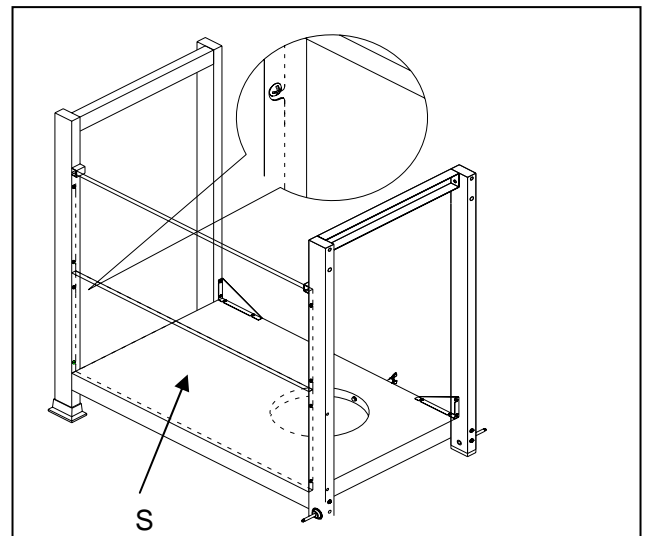

Fig. 7
- a) Remove the nuts and washers which are pre-assembled on the short axle, place the wheels (C) on the Axle attached to Cart Leg, Front Right (I) and Cart Leg, Back Right (J). As show in Fig. 7.